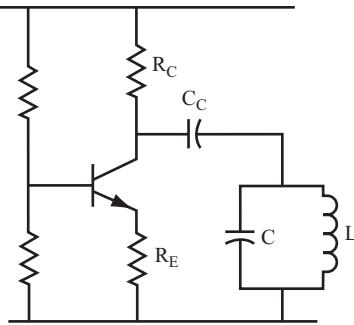
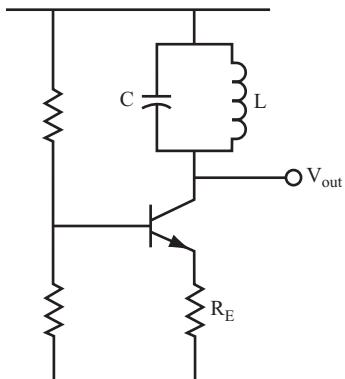

FIGURE 9.8
FIGURE 9.9
8 Figure 9.8 shows an amplifier circuit with a parallel inductor and capacitor connected between the collector of the transistor and ground. A parallel inductor and capacitor circuit is sometimes called a *tuned* (or *resonant*) *load*.
NOTE The circuit shown in Figure 9.8 does not have an input signal either to the emitter or to the base. By adding a feedback connection to a parallel LC circuit, you provide an input signal to the emitter or base, as explained later in this chapter.
- 12** Figure 9.9 shows the parallel LC circuit connected between the collector and the supply voltage, rather than between the collector and ground (as in Figure 9.8).
You can use this circuit and the circuit shown in Figure 9.8 to selectively amplify one frequency far more than others.